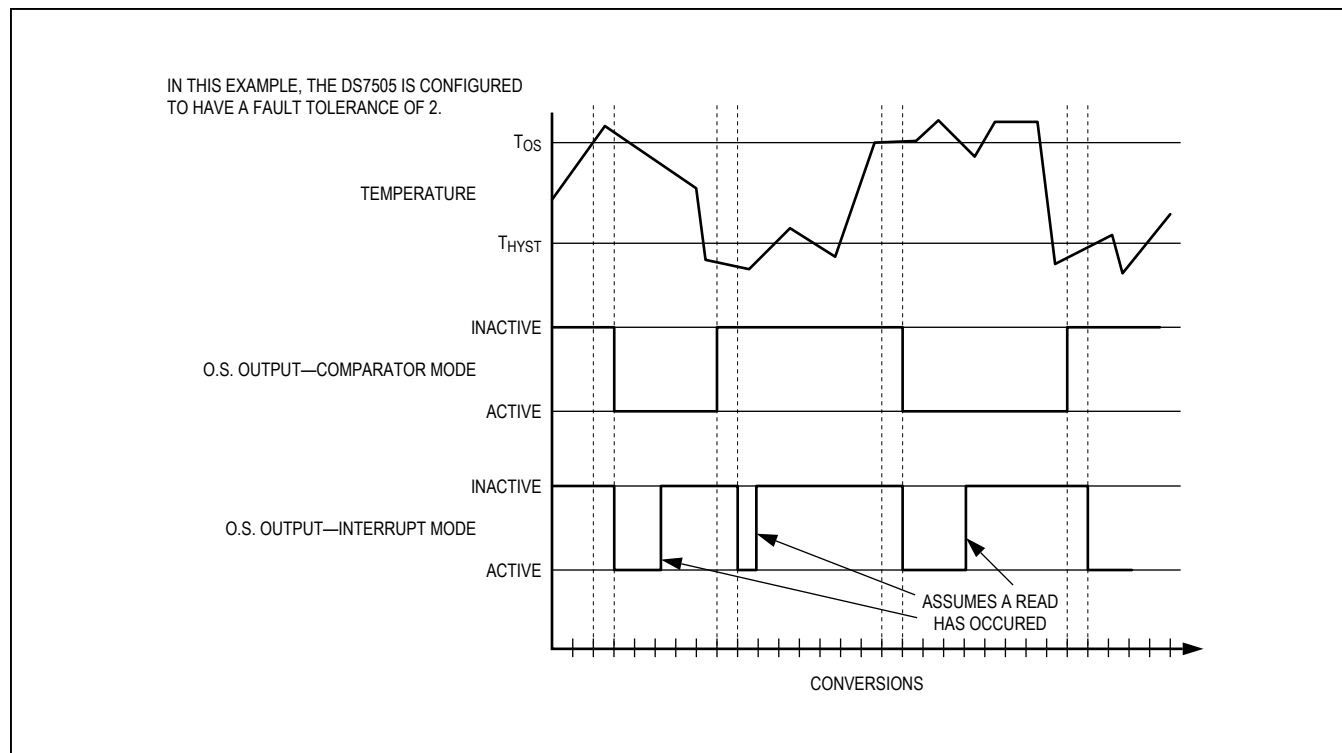

Figure 4. O.S. Output Operation Example
When the thermostat is in comparator mode, O.S. can be programmed to operate with any amount of hysteresis. The O.S. output becomes active when the measured temperature exceeds the T_{OS} value a consecutive number of times as defined by the F1 and F0 fault tolerance (FT) bits in the configuration register. O.S. then stays active until the first time the temperature falls below the value stored in T_{HYST} . Putting the device into shutdown mode does not clear O.S. in comparator mode. Thermostat comparator mode operation with $FT = 2$ is illustrated in Figure 4.
measured temperature falls below the T_{HYST} value a consecutive number of times equal to the FT value. Again, O.S. can only be cleared by putting the device into shutdown mode or reading any register. Thus, this interrupt/clear process is cyclical between T_{OST} and T_{HYST} events (i.e., T_{OST} , clear, T_{HYST} , clear, T_{OST} , clear, T_{HYST} , clear, etc.). Thermostat interrupt mode operation with FT = 2 is illustrated in Figure 4.